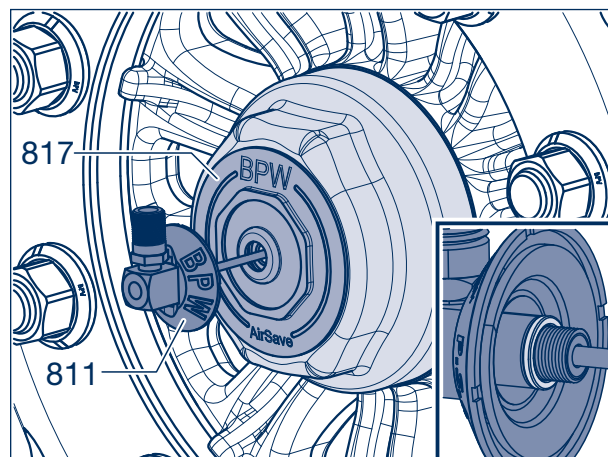

Figure 4
- [7] Check soft sealing ring of the rotor (811 or 811a, depending on tyre) for correct seat at the end of the thread, push up to the bumper if necessary (Fig. 4, Section).
- [8] Guide the rotor into the adapter (817) of the hub cap and the stator (821) in the axle stub and push until contact is made.